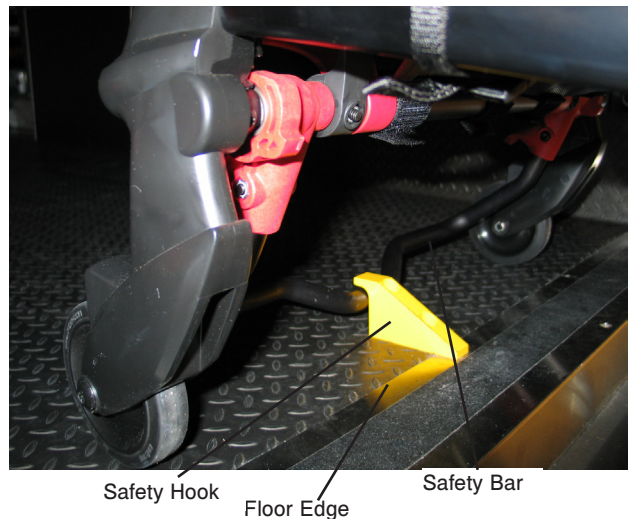

Figure 11 - Safety Bar Engaging Safety Hook
3. Fasten the safety hook to the patient compartment floor and verify that the safety hook always engages the cot safety bar regardless of how the cot is unloaded from the vehicle (see Figure 11).